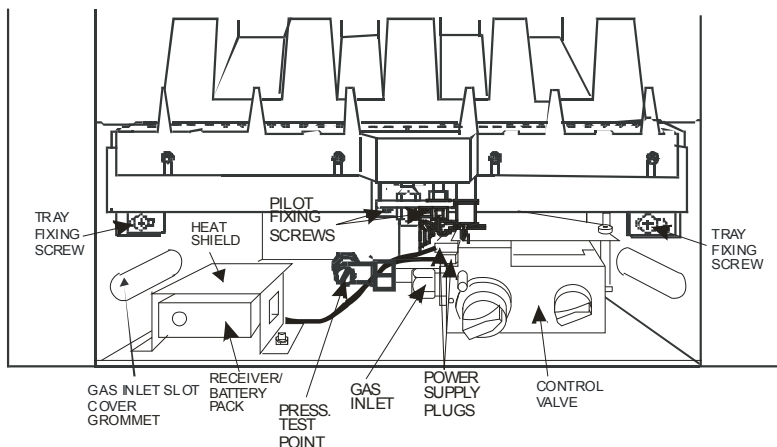

Figure 51
4. Position the receiver under the heat shield as shown in **Figure 51**.